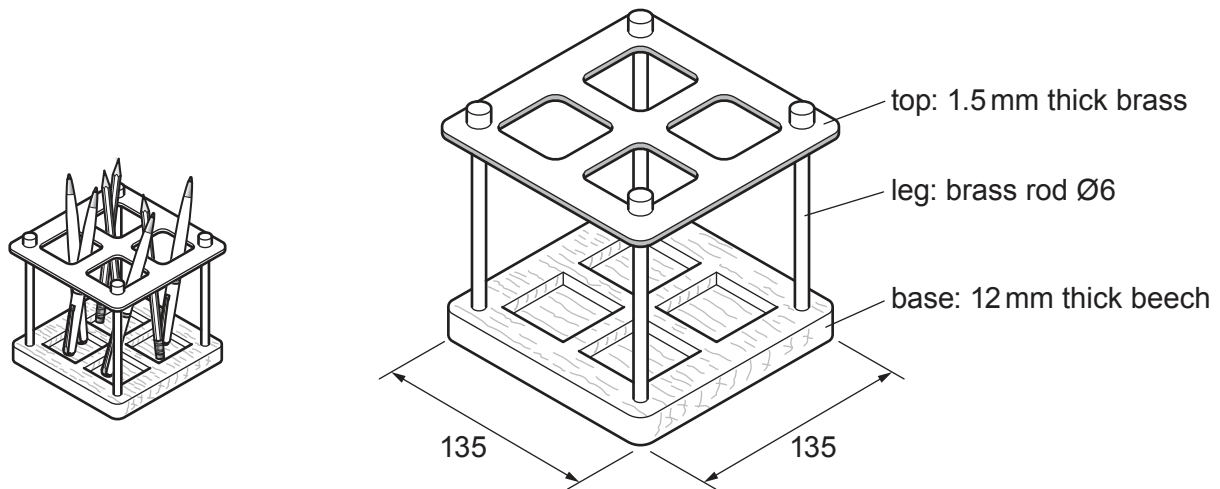

Fig. 11.1
11 Fig. 11.1 shows a pen and pencil holder.
- (d) Use sketches and notes to show a modification to the design of the pen and pencil holder shown in Fig. 11.1 that would make it easier to carry.